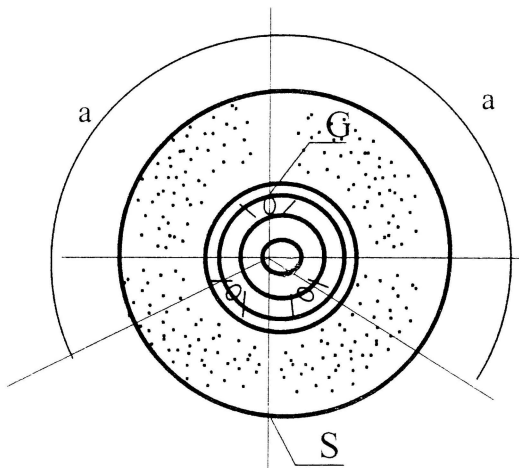

Fig. 11
3.1.4 Place two correction weight "K" anywhere round the periphery, but at equal distance "a" from weight "G". (Fig.11)